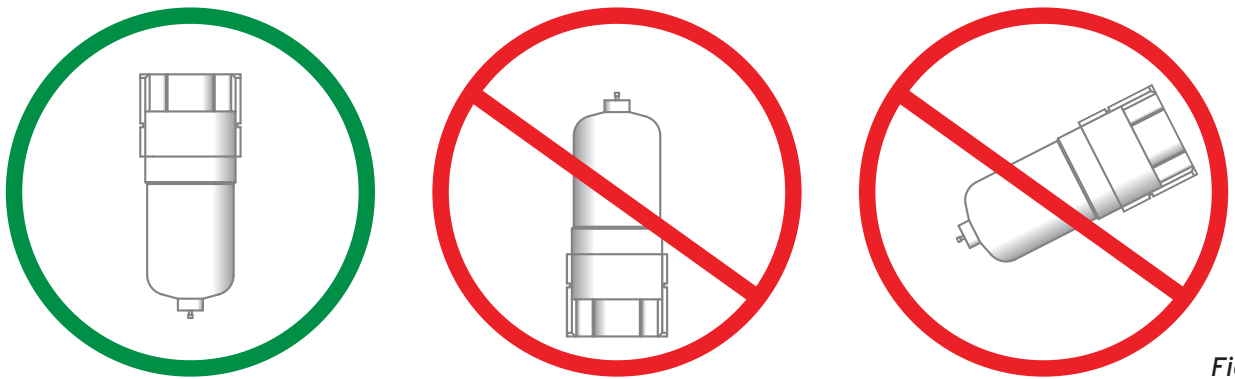

Fig. 10
2. Ensure the water trap is mounted in a vertical position. Do not install water trap inverted or angled (Fig. 10).